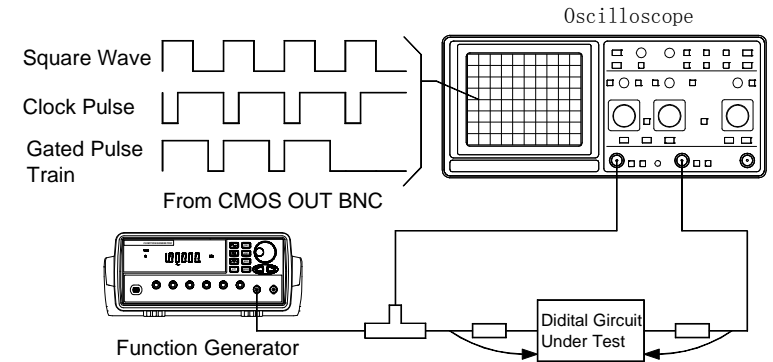

Figure4-4
- Connect the lines as figure 4-4.
- Use dual-trace scope to show the input-output timing relation judged by the two waves shown in figure 4-4.